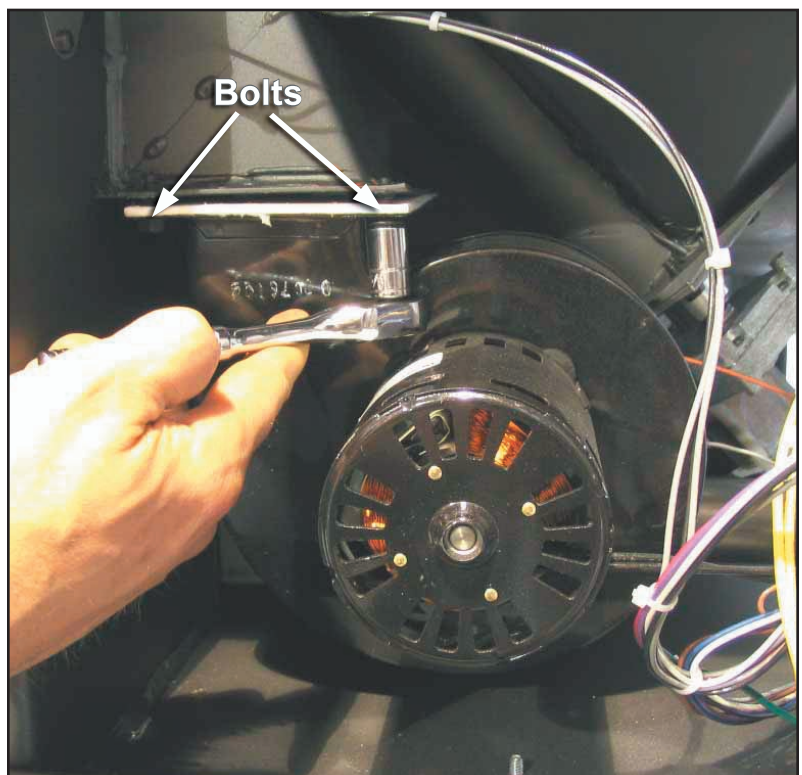

Figure 27: Removing The Convection Blower.
Remove the two (2) bolts shown in Figure 27 using an 8mm socket or wrench.